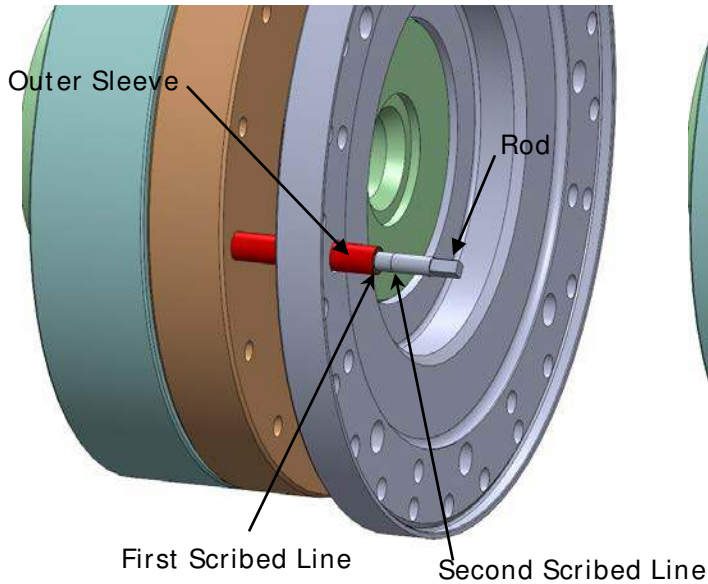

Figure 6a - Setting Initial Grip Position
3.4.11 The proper setting of the HTC is accomplished by the separation or gap between the two halves of the clamp (see Figure 1a). A special Gap Tool (Riverhawk PN 7500784) has been provided to facilitate this setting. Be sure you maintain the First Grip Position from the previous step until the tool is in place. Thread the gap tool into one of the retraction screw holes until the outer sleeve aligns with the first scribe line on the rod (see Figure 6a). The tool is spring loaded so you will need to push and turn in order to start the thread.